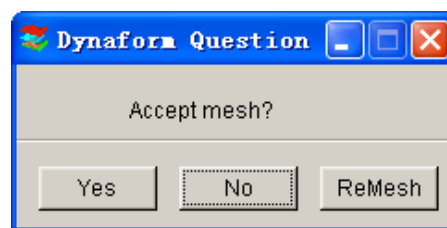

Figure 6.4.16 DYNAFORM QUESTION window
- Select **OK** to accept the selected line. The program will show the trimmed result and display a DYNIFORM QUESTION window as shown in Figure 6.4.16 to prompt the user to accept the trimmed result.